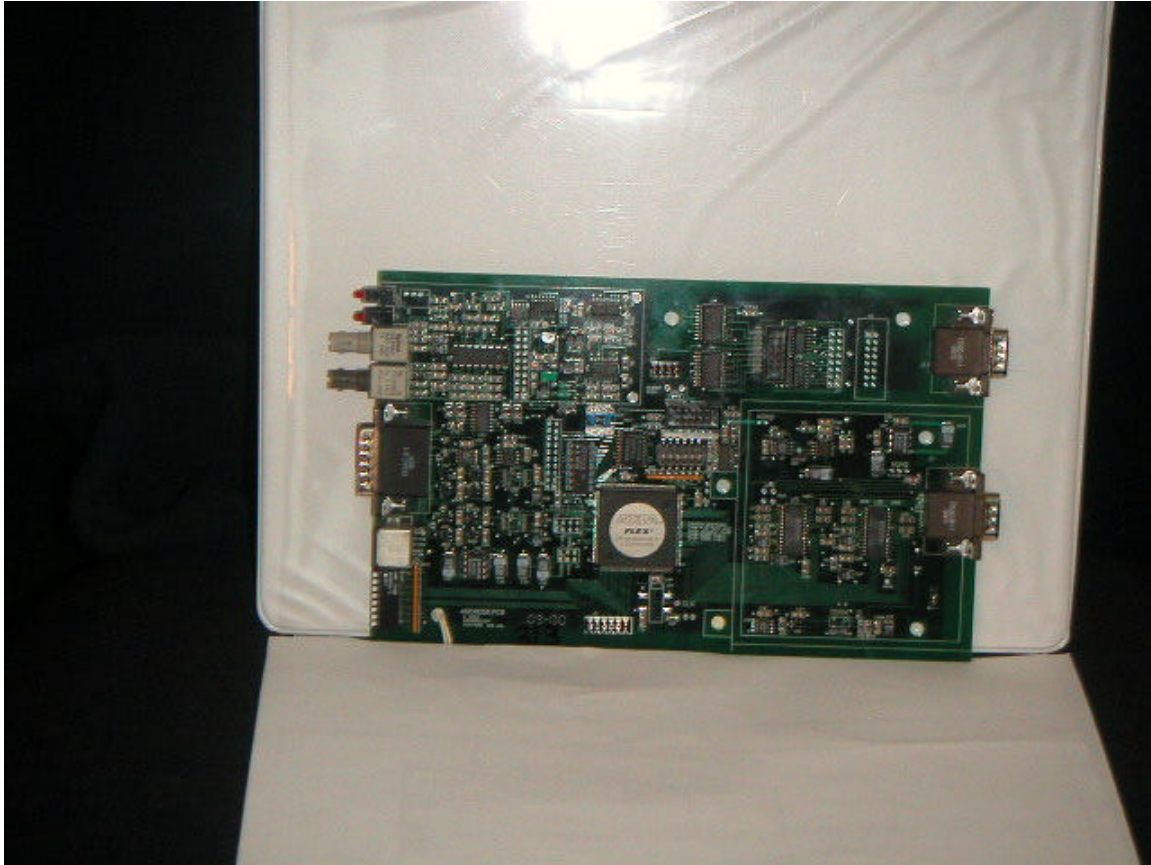
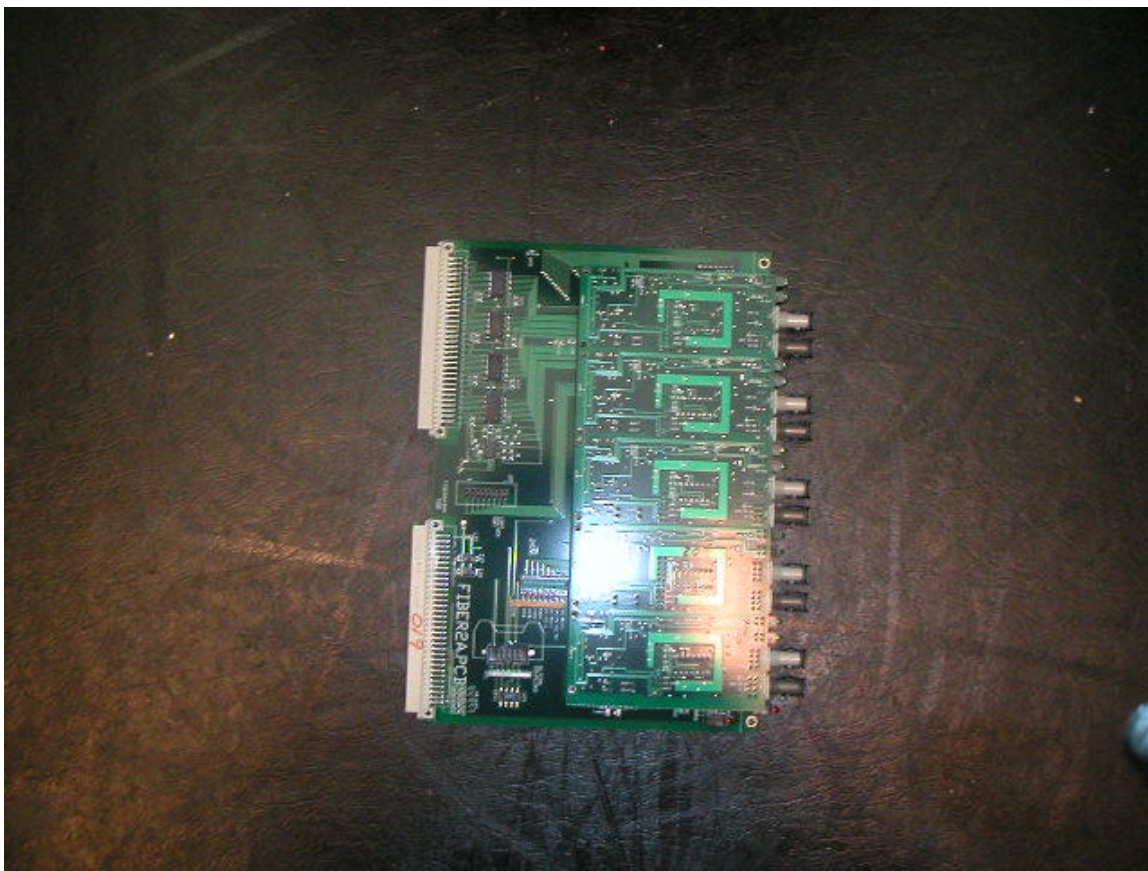

FIG 2. Charge amplifier four channel electrometer. It is placed into a box measuring 9" x 5.5" x 2.5".
Fig 4 FIBER2 VME board
CHARGE AMPLIFIER. The analog characteristics of the electrometer are based on the Texas Instruments Inc. (formerly Burr Brown Inc.) ddc112 integrated circuit. To see its specifications, go to www.ti.com and search on the ddc112 chip. A photograph of the printed circuit board is given. (FIG 2) All the modes and options discussed in the data sheet are implemented in our system. However because ultimately the integrated circuit uses a 20 bit analog-to-digital converter (ADC) we find that most options, most “bells and whistles” are not needed. Twenty bits is a dynamic range of a million. When run in a somewhat standard manner (using the external 220 pf capacitor for maximum rated full well), we observed the following in digital storage scope mode:
- (1) Qty 4: the quad PIN diode mechanical holders. See Section 2 of this memo.
- (2) Qty 4: Four channel electrometer electronics boxes, "ADCMOD2". These will reside in the hutch, near the detectors. They are the amplifiers. (FIG 2,3)
- (3) Qty 4: terminated fiber optic cable pairs run from the hutch, to the control rack. Each ADCMOD2 board needs a pair of fibers, one transmits, one receives. Typically the fiber is bundled as 4,8,12 fibers in a cable. For example the breakout fiber (orange color) has 4 125/62.5 um fibers in it. We can provide the fiber.
- (4) Qty 1: an APS supplied VME card "FIBER2" to receive the fiber optics (FIG4) One of these cards can support four (4) ADCMOD2's.